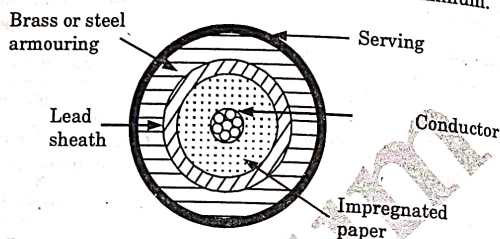

Fig. 5.14.1. Single core L.T. cable.
3. The Fig. 5.14.1 shows the cross-section of a single core L.T. cable. It consists of a circular core of stranded copper or aluminium.